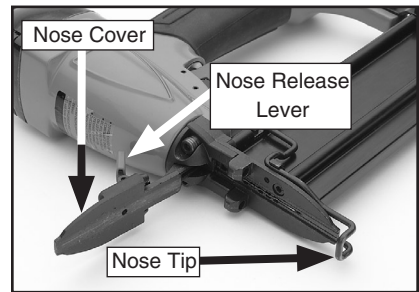

Figure 7. Nose opened to clear a jam.
4. Open the nailer nose with the nose release lever (**Figure 7**).